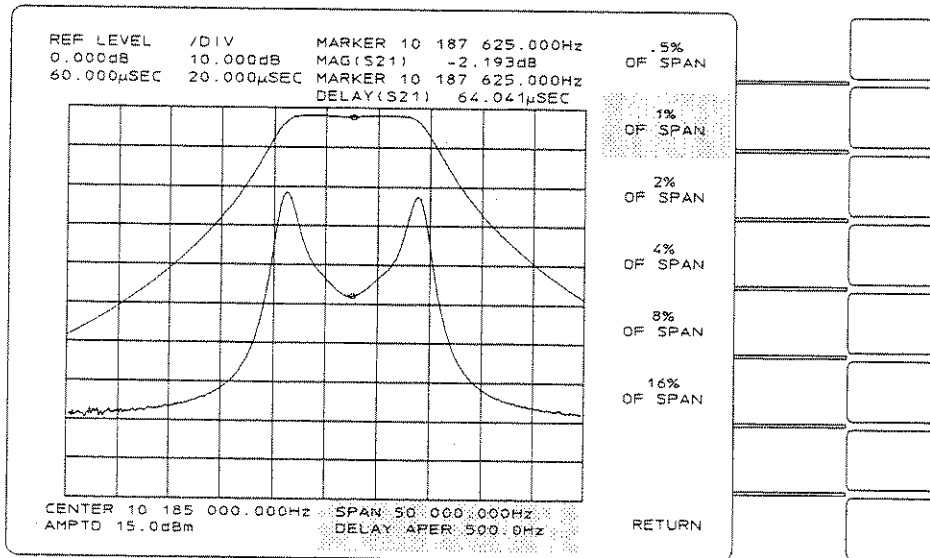

Figure 4-11
**DELAY APERTURE** is a softkey that appears in the [ DISPLY FCTN ] menu when [ DELAY ] is selected. Delay aperture is the frequency span over which the HP 3577B evaluates phase and calculate group delay. This frequency span is in percent-of-span; the selections include .5%, 1%, 2%, 4%, 8%, and 16%. The selected aperture appears below the lower-right corner of the graticule in Hertz when the active trace is group delay. See figure 4-11.